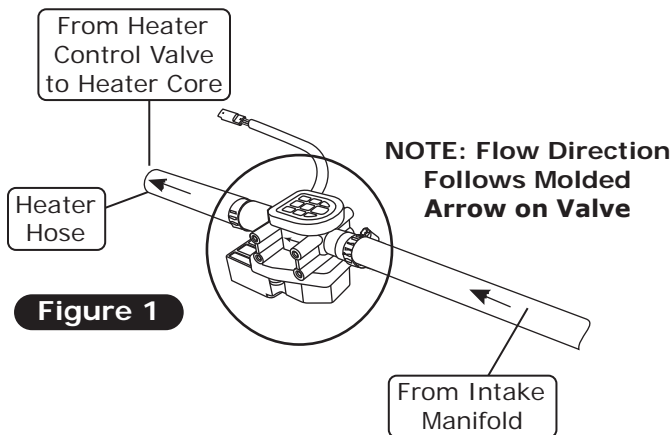

Figure 1
1. Route a length of heater hose (not included) from the lower heater hardline to the water pump fitting (See Photo 1, below). Secure it using (2) hose clamps.
3. Install the heater control valve and secure it with (2) hose clamps (See Photo 1, below). **NOTE: Ensure proper flow direction through the heater control valve. The flow direction follows the molded arrow on the valve (See Figure 1, below).**
4. Install another length of heater hose (not included) from the heater control valve to the intake. Secure it with (2) hose clamps (See Photo 1, below).